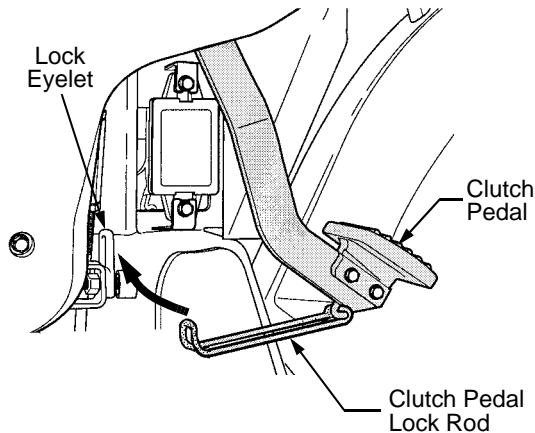

Figure 80
- Depress the clutch pedal and engage the clutch pedal lock rod in the lock eyelet. See Figure 80.